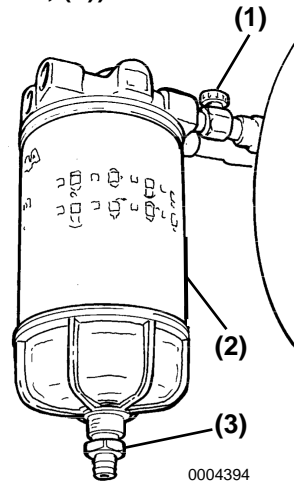

Figure 2
1. Make sure the fuel tank cock (Figure 2, (1)) is closed.
2. Loosen the drain plug (**Figure 2, (3)**) at the bottom of the fuel filter / water separator and drain off any water or dirt. **WARNING! ALWAYS wear eye protection. The fuel system is under pressure and fuel could spray out when any fuel system components are removed.**
3. Turn the filter container (**Figure 2, (2)**) counterclockwise to remove. **NOTICE: When you remove any fuel system component to perform maintenance (such as changing the fuel filter) place an approved container under the opening to catch the fuel.**
7. Open the fuel tank cock (**Figure 2, (1)**).